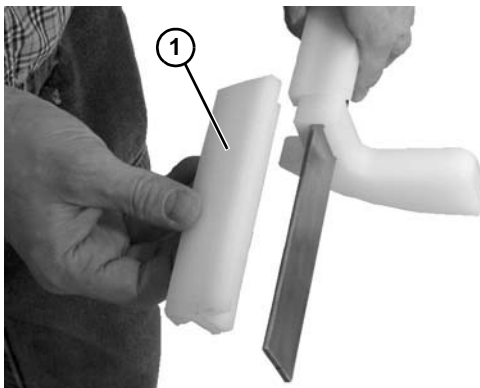

Figure 51
3. Remove and replace wear strips if worn (**Figure 51, item 1**).
4. Remove and replace nose bar idler shoe if worn (**Figure 51, item 1**).